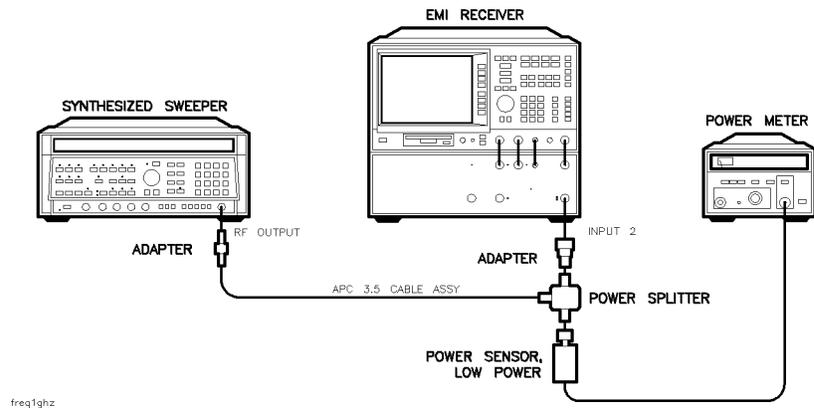

Figure 2-5. Input 2 Absolute Amplitude Accuracy Setup
1. Connect the equipment as shown in Figure 2-5.